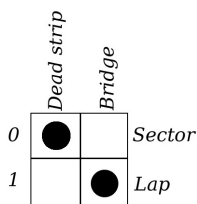

Figure 33: Ds bridge lap count sensor, dead strip sector sensor.
In order that the *Track Interface* interprets the DS bridge as lap counter sensor and the dead strip as sector sensor, the double switch (5) must be set as shown in figure 33.